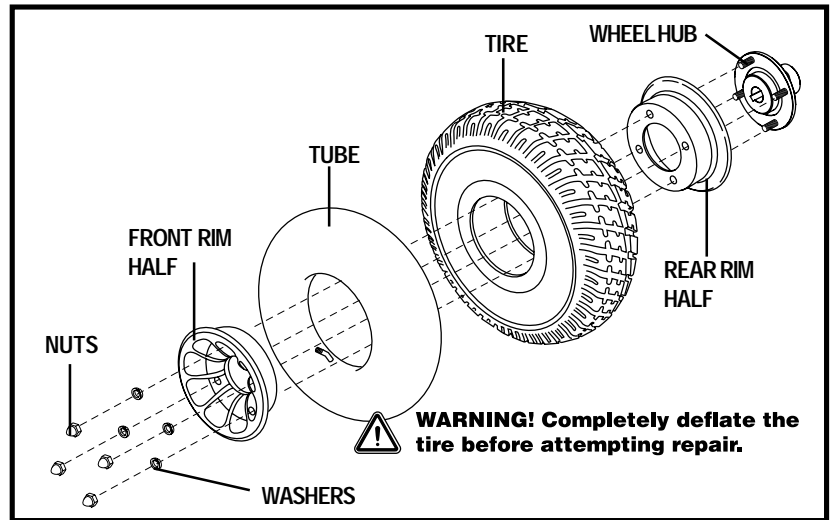

Figure 25. Jet 3 Ultra Drive Wheel Disassembled
6. Remove the nuts and washers from the rim assembly and separate the front and rear rim. See figure 25.